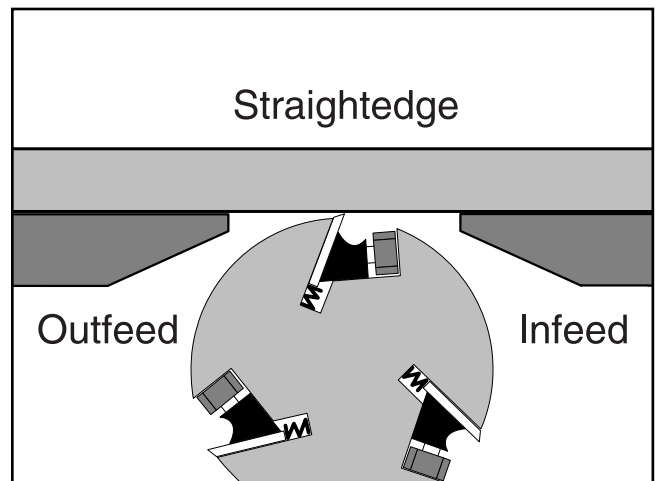

Figure 32. Infeed table even with outfeed table.
3. Release the infeed table lock and adjust the infeed table flush with the outfeed table as illustrated in **Figure 32**. The infeed table should be exactly the same height as the outfeed table.